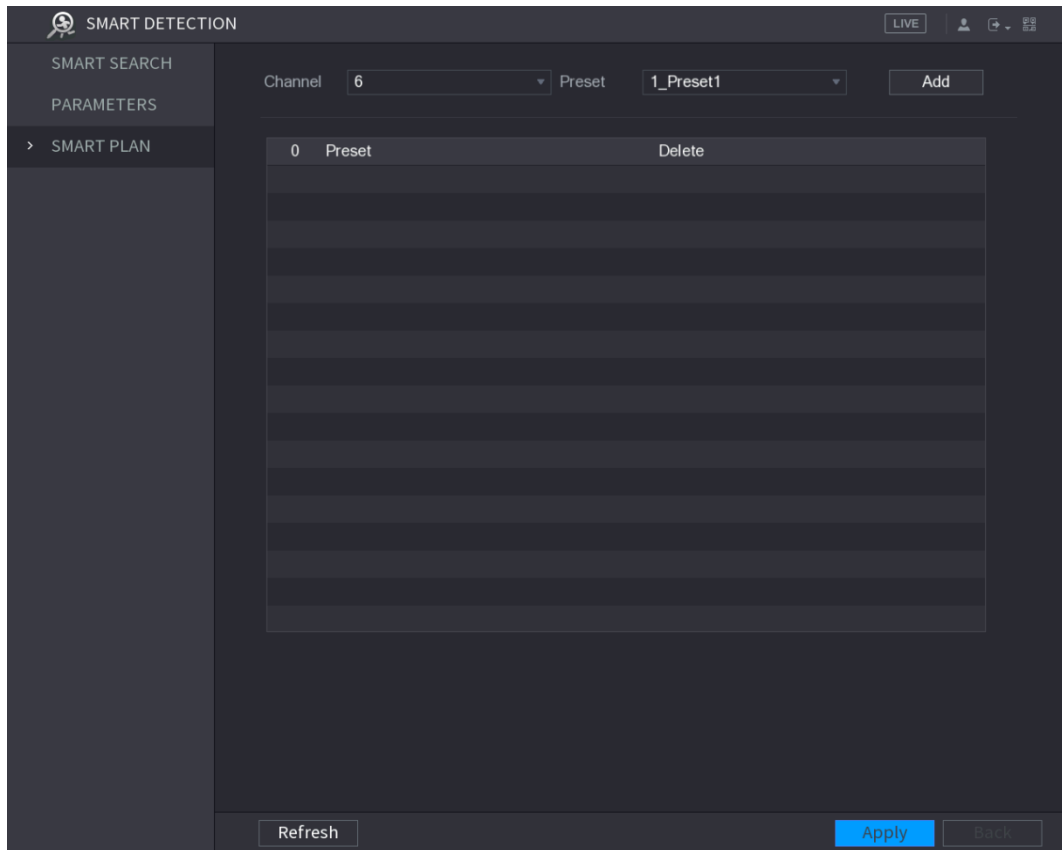

Figure 5-164
- For the IP camera with preset, see Figure 5-164.